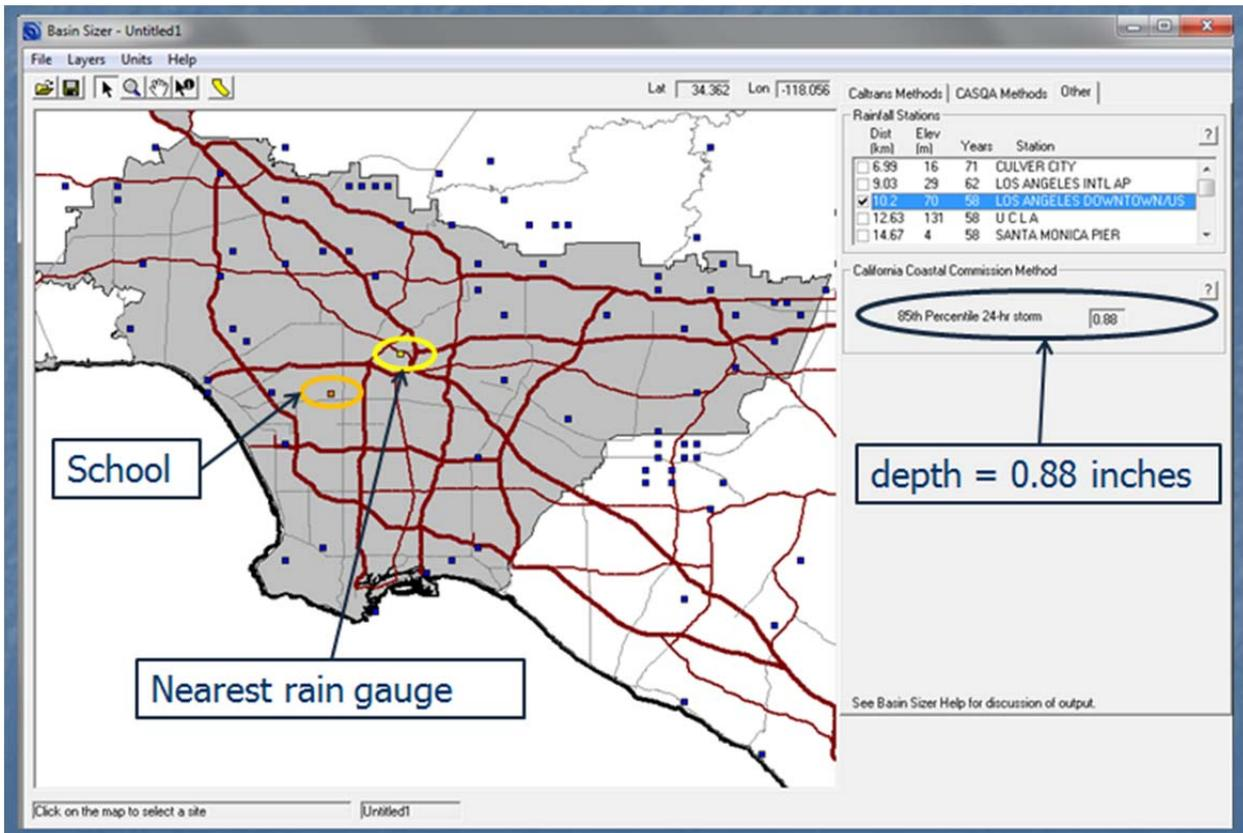

Figure 2. Basin Sizer – Select Nearest Rain Gauge and Record Design Storm Depth
- iii. Select nearest rain gauge and record design storm depth(see Figure 2)